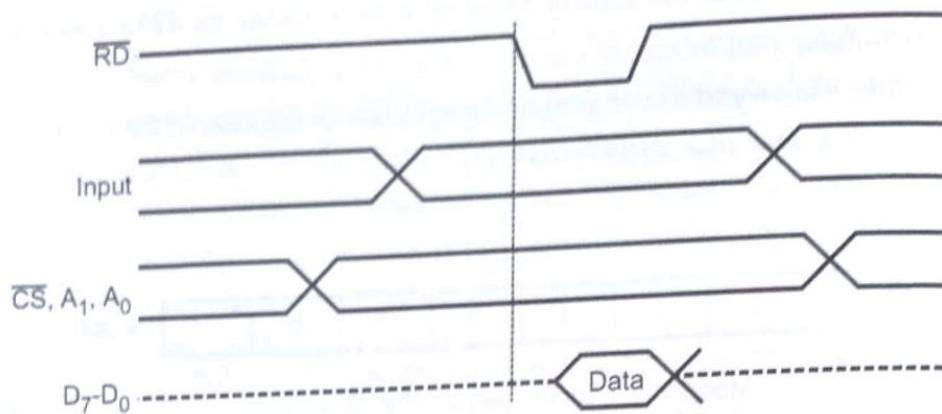

Fig. 3.4.6 Timing diagram for mode 0 input mode
- Fig. 3.4.6 shows the timing diagram for mode 0 input mode.